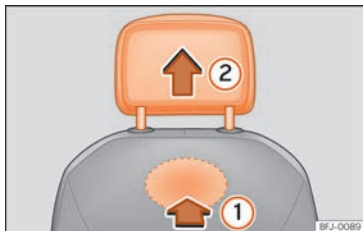

Fig. 144 Front head restraint: removal.
- To unlock it, look for the rabbit on the bottom of the backrest and press in the direction of the arrow »» **Fig. 144** **1**.